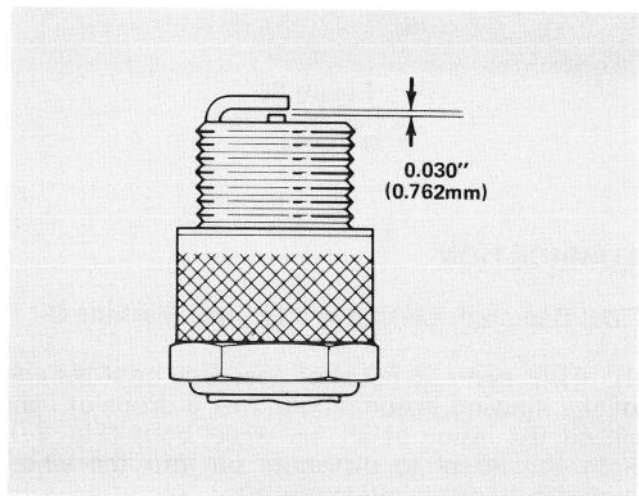

Figure 31
3. Set air gap between electrodes at 0.030 of an inch (Fig. 31). Install correctly gapped spark plug with gasket seal and tighten plug to 15 ft-lb. If torque wrench is not used, tighten plug firmly.